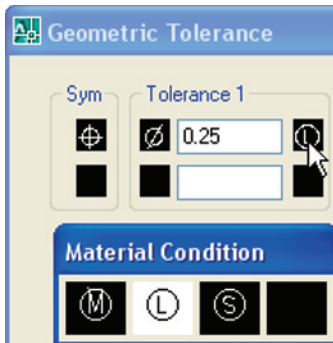

Fig. 6.28 The **Geometric Tolerance** dialog and the **Material Condition** sub-dialog
5. Still in the dialog *click* the left-hand black square under **Tolerance 1**. The **Material Condition** dialog appears (Fig. 6.28). *Click L*. The letter appears in the top right-hand square of the dialog.